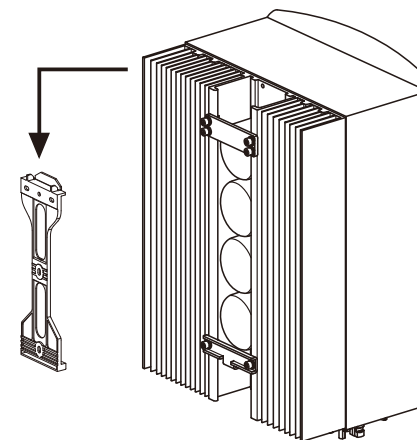

Figure 4.5 Wall Mount Bracket
2. Lift up the inverter (be careful to avoid body strain), and align the back bracket on the inverter with the convex section of the mounting bracket. Hang the inverter on the mounting bracket and make sure the inverter is secure (see Figure 4.5)